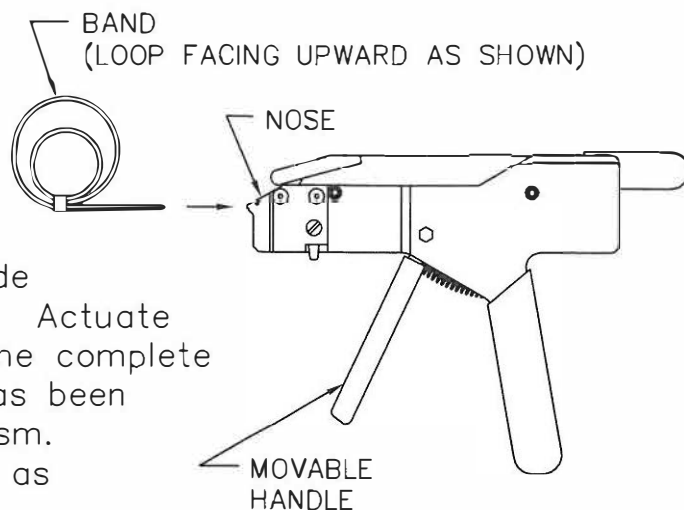

FIGURE 1
- 1.1 Insert the mechanical band into the DBS-1200 Banding Tool at least 1.75 inches, the band loop shall be oriented on the upper side of the tool's nose (see Figure 1). Actuate the movable handle of the tool one complete stroke to insure that the band has been captured by the gripping mechanism. The band must be double-looped as shown in Figure 6.